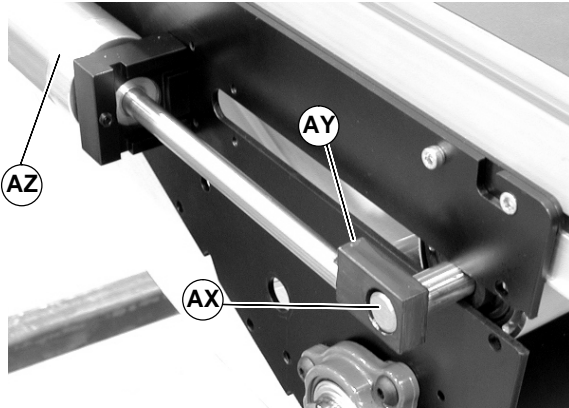

Figure 64
6. Push shaft (AX of Figure 64) through block (AY) on opposite side of center drive, slide block toward air cylinder (AZ).